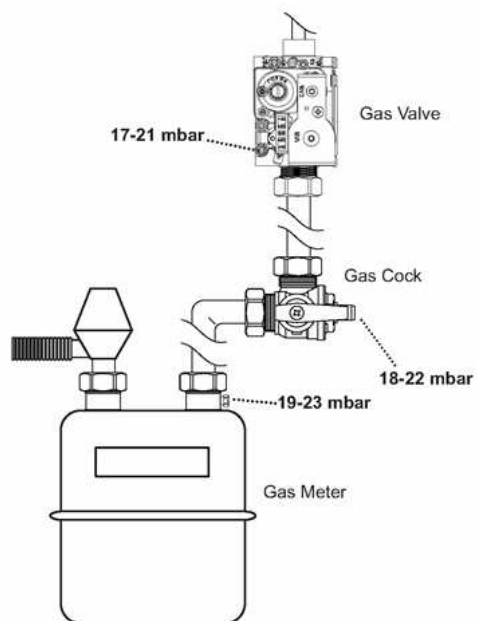

Fig. 41
- With the boiler operating in the maximum rate condition check that the operational (working) gas pressure at the inlet gas pressure test point is in accordance with B.S. 6798 & B.S. 6891. This must be **AT LEAST** 17mb! (Fig. 41).